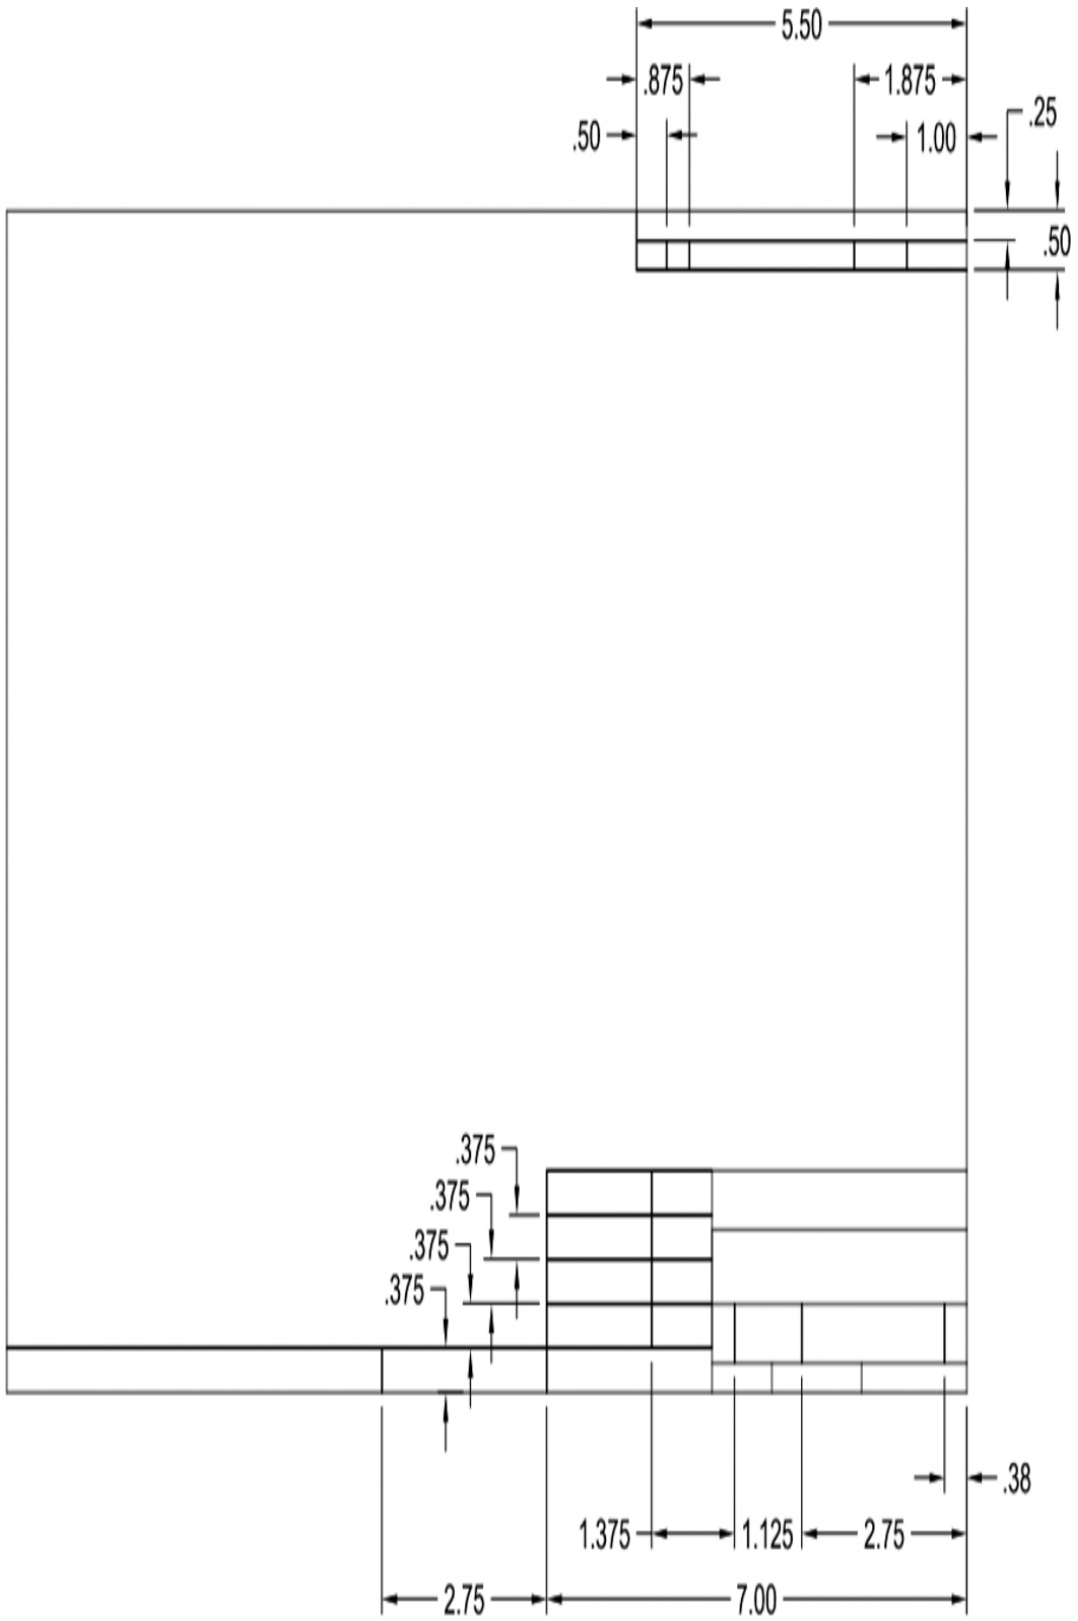

Figure 5-71
2. Add the line work shown in Figure 5-71. **Do not** draw dimensions.